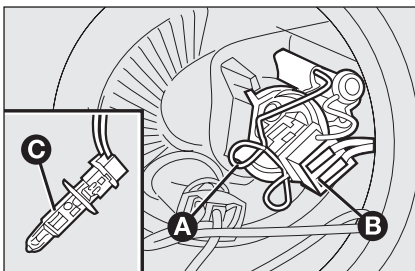

fig. 22
- release the bulb holder catch **A-fig. 22**;